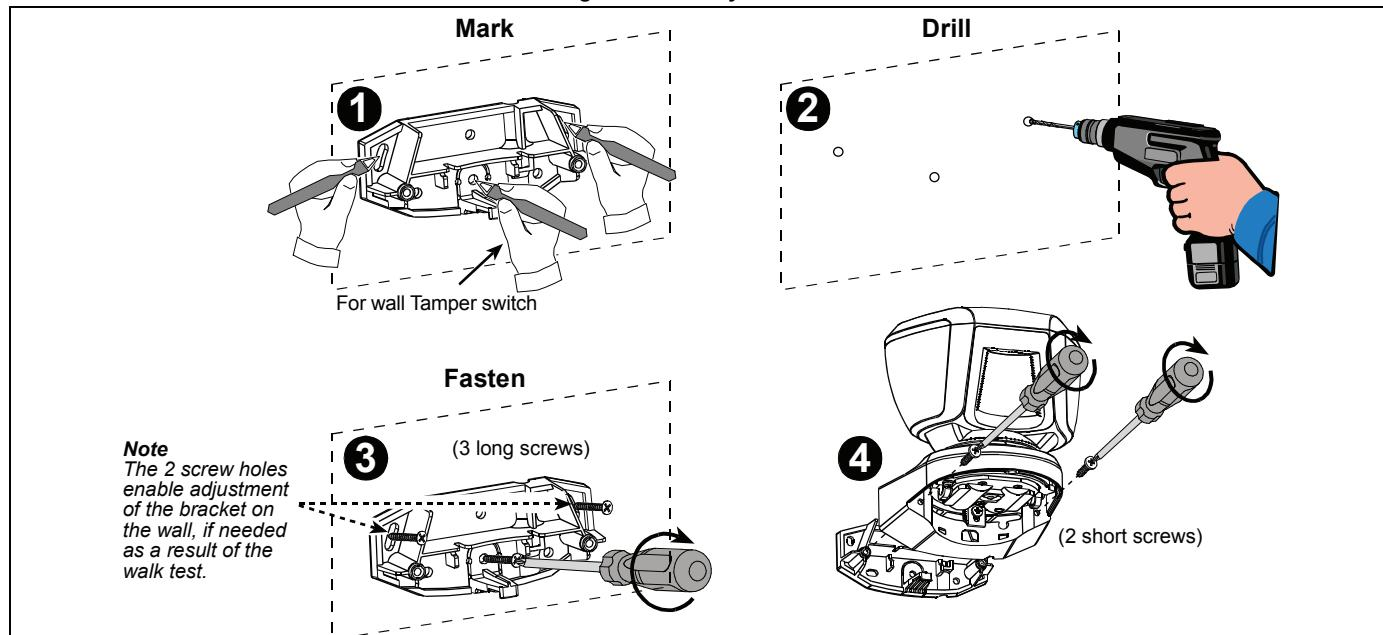

Figure 4 - Installation
A. Bracket installation (see figure 4) – firmly fix the bracket on a stable wall or pillar. The orientation of the fixed bracket should be as parallel as possible to the surveyed ground surface.
C. Fasten the detector to the bracket (see Fig. 4 step 4).